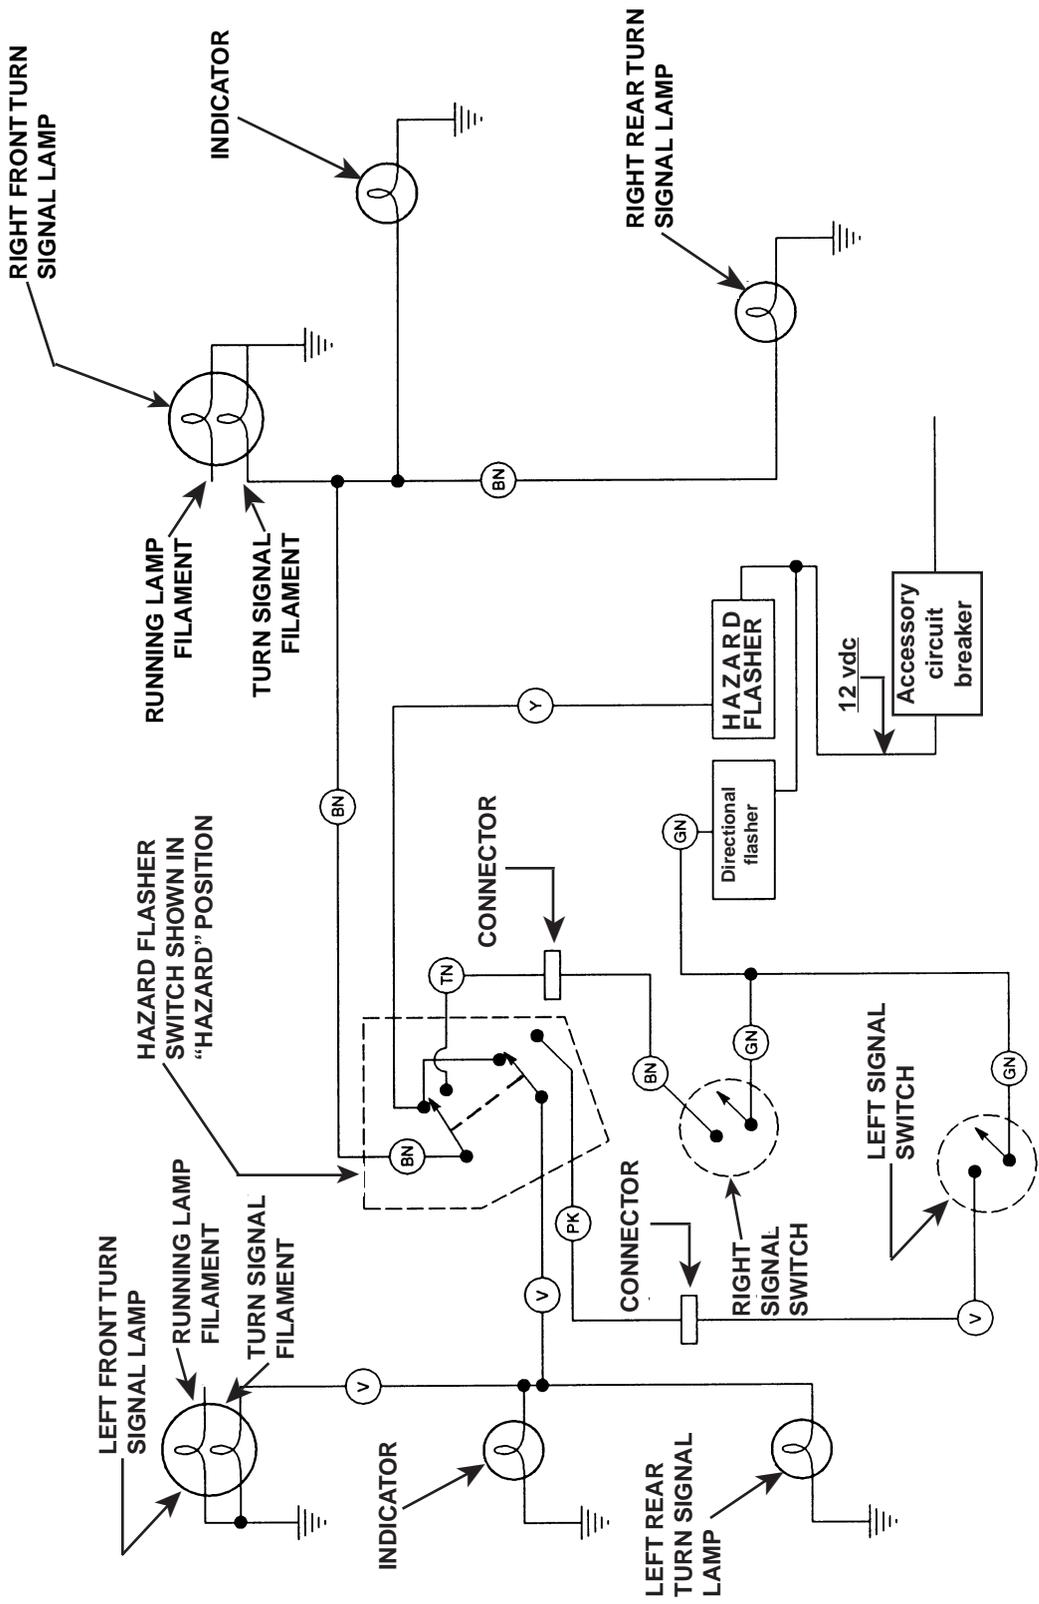
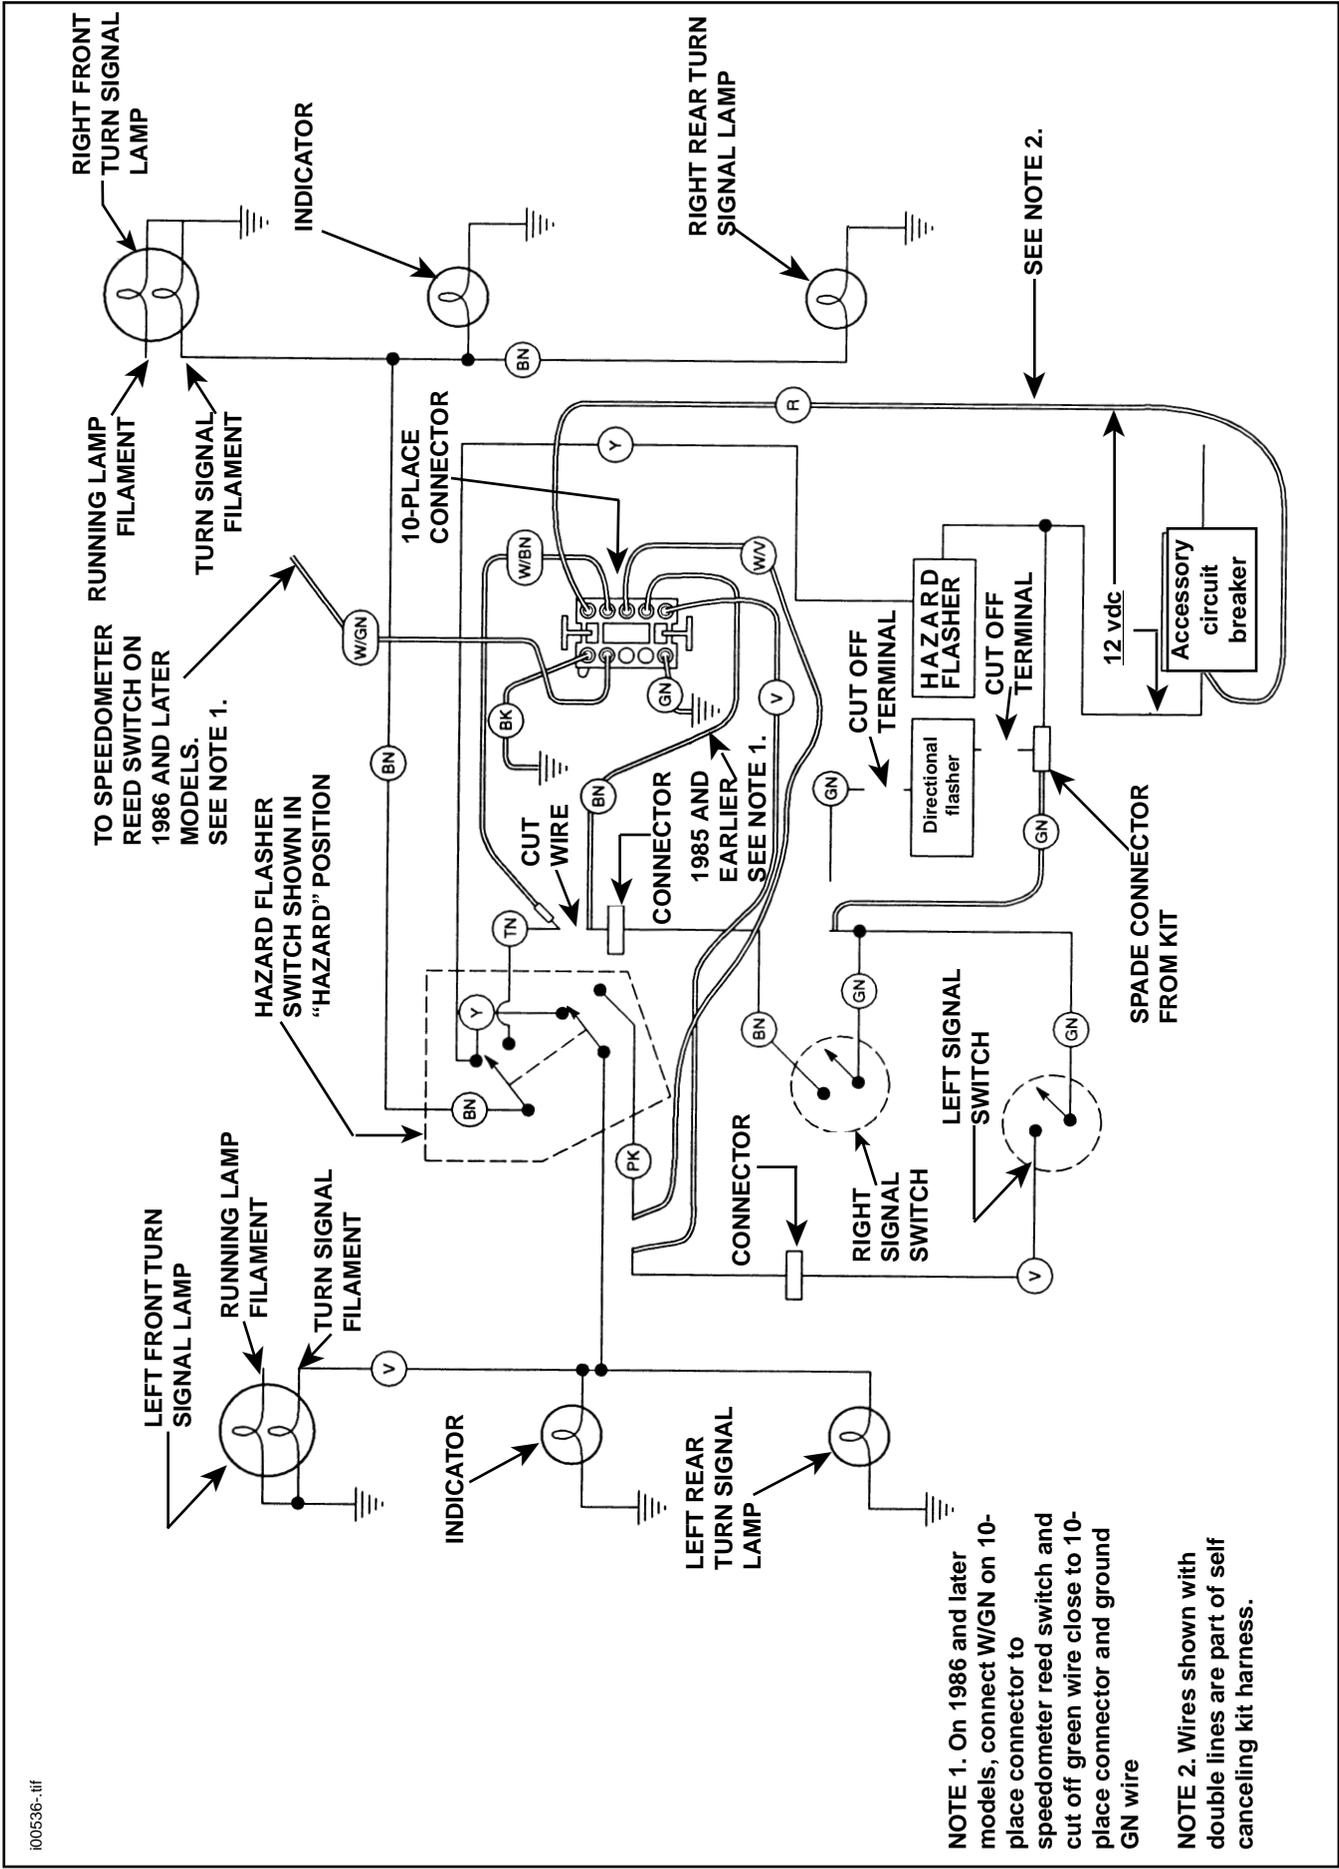

Figure 2. Stock Turn Signal Circuit with Hazard Switch and Flasher
Figure 3. Turn Signal Circuit (Figure 2.) with Kit Harness Installed
5. See Figure 2 (shows stock signal light circuit) and Figure 3 (shows kit connected in signal light circuit). Locate pink wire that connects to four-way flasher switch. Cut wire near switch. Connect with Scotchlok\*, white/violet striped wire from module to pink wire going to four-way flasher switch. Connect with Scotchlok\*, violet wire from module to remaining end of pink wire leading into main wiring harness and connected to left signal light switch.
2. See Figure 2 (shows stock signal light circuit) and Figure 3 (shows kit connected in signal light circuit).
The FLH wires have different color coding than that shown in Figures 2 and 3. Make certain you are connecting the correct wires as directed in the following steps: